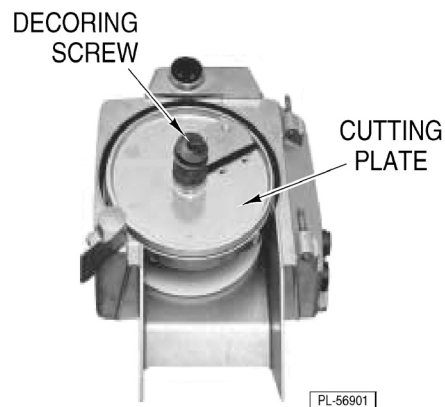

Fig. 5
6. **Avoid contact with sharp knife on the cutting plate** and put the desired cutting plate on the shaft and turn the cutting plate until it falls onto its coupling (Fig. 5). Turn counterclockwise to lock.
7. Put the decorating screw on the shaft. Turn it counterclockwise to tighten (Fig. 5).